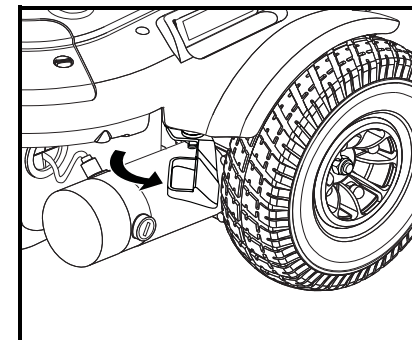

Figure 9. Freewheel Mode (Drive Disengaged)
3. Pull the two levers outward to disengage the drive motors (freewheel mode). **See figure 9.**